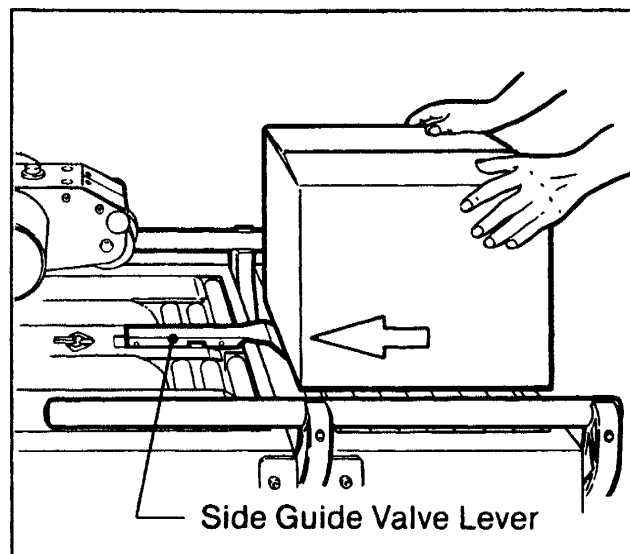

Figure 12 - Side Guide Valve Lever
1. A valve lever in the center of the infeed roller conveyor actuates movement of the side guides. When the operator pushes a box onto the infeed conveyor, as shown in Figure 12, the lever is depressed causing the air cylinder powered side guides to move inward, therefore centering the box.